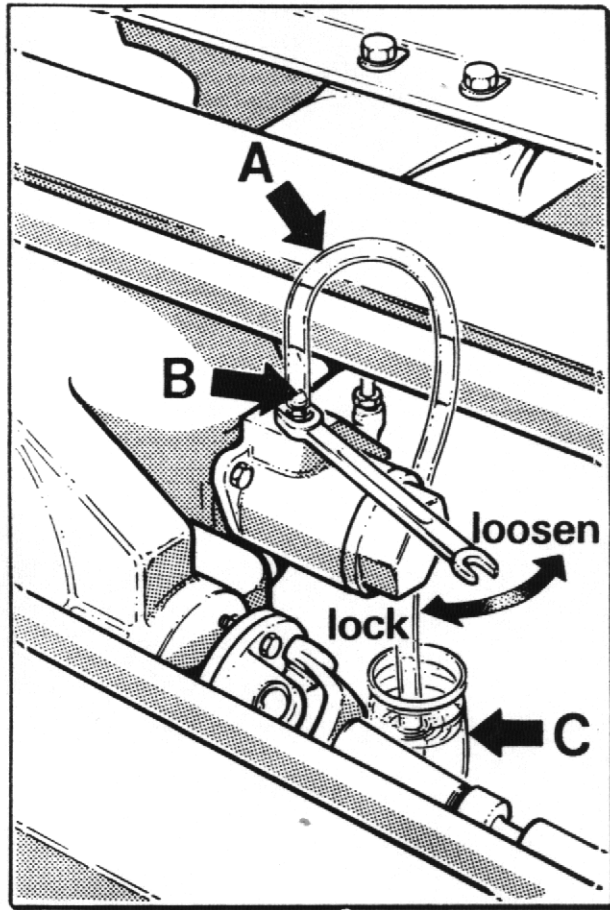

FIG.5
3. Attach bleeder tube (A) (See fig. 5) to one of the bleed screws (B) and immerse other end in a small quantity of brake fluid contained in a glass jar (C). Slacken bleed screw and operate brake pedal up and down to its full stroke, until fluid pumped into the jar contains no air bubbles. Hold down pedal and close bleed screw. Remove bleeder tube and release pedal.